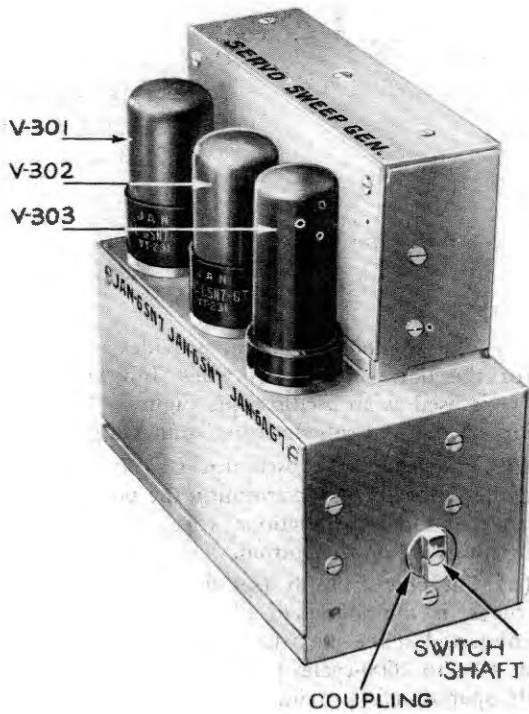

Figure 1-6. Servo-Sweep Generator—Outside View
(3) The servo-sweep generator is tripped by the amplified signal from the trigger unit and generates a sweep voltage which is applied to the horizontal plates of the cathode-ray tube. (See figure 1-6.) Connecting plugs are on the bottom.